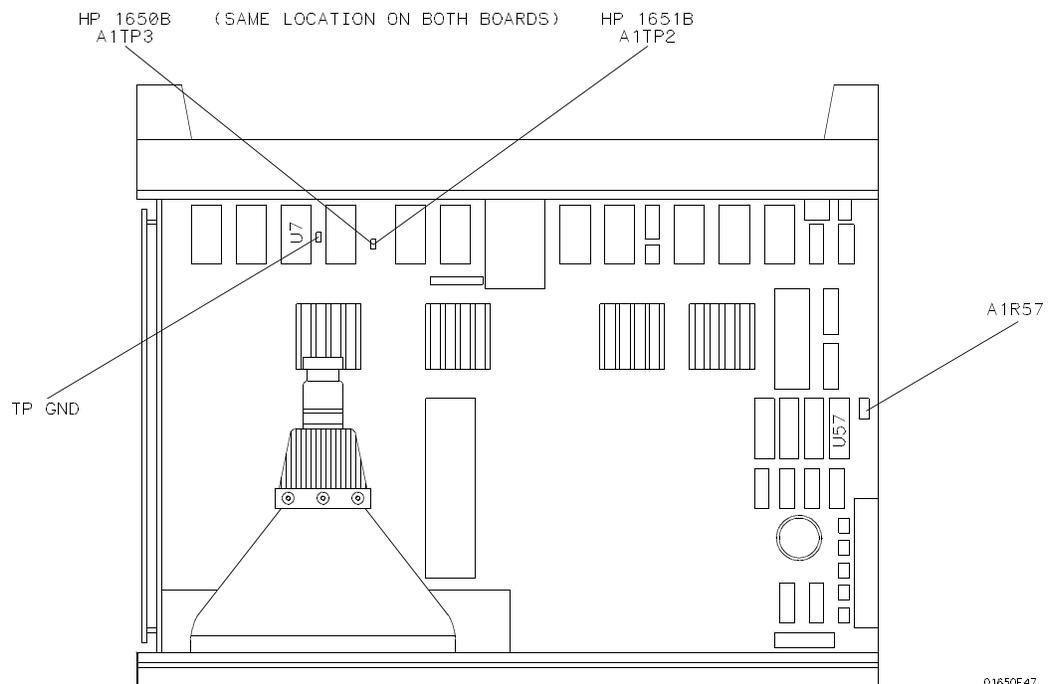

Figure 4-3. System Board Testpoints and Adjustments
2. Connect negative (-) lead of voltmeter to TP GND. Refer to figure 4-3 for testpoint and adjustment locations.
- b. Adjust A1R57 for reading of $-0.9900\text{ V} \pm 0.0005\text{ V}$. Refer to figure 4-3 for adjustment locations.